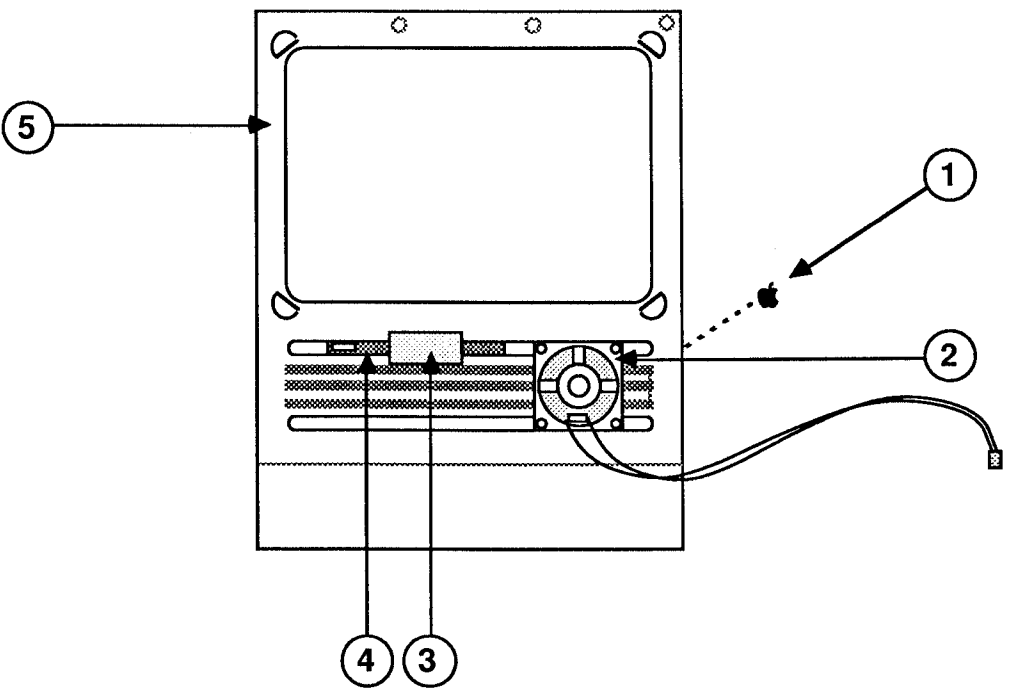

FIGURE 3
- IPL.7 Front Bezel (Figure 3)
□ MACINTOSH SE – FRONT BEZEL (Figure 3)